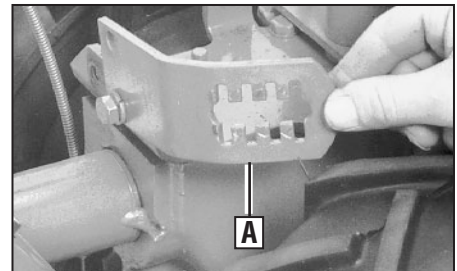
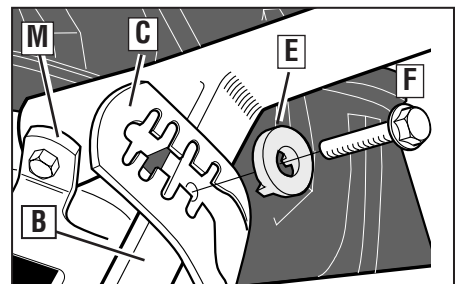
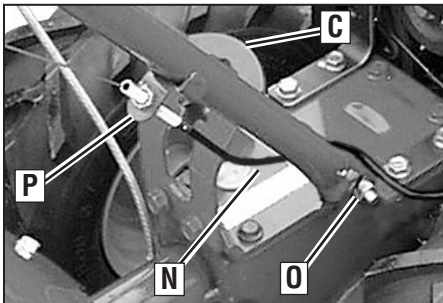

Figure 2-2: On electric start units, move height adjustment bracket (A, Figure 2-2), loosen the second screw, and swing the bracket to one side.
Figure 2-3: Forward clutch control cable not shown for clarity.
Figure 2-4: Attach handlebars.
height adjustment bracket (A, Figure 2-2), loosen the second screw, and swing the bracket to one side.
3. Gently lift handlebar (do not overstretch attached cable) and place handlebar cross-brace (B, Figure 2-3) in front of curved height adjustment bracket (C).
4. With the forward clutch cable (N, Figure 2-4) on the inside of handlebar, position the handlebar ends on the outside of the two mounting tabs (M, Figure 2-3) on the transmission top cover.
NOTE: The curved handlebar height adjustment bracket appears as shown in C, Figure 2-3 for non-electric start units. For electric start units, the bracket is loosened and moved to one side.
5. Loosely attach the handlebars to the mounting tabs with two 3/8-16 x 1" screws (heads of screws go to inside of tabs), 3/8" flat washers and 3/8"-16 lock nuts (O, Figure 2-4).
6. On electric start units, reattach the height adjustment bracket (A, Figure 2-2). Tighten both screws securely. Make sure the handlebar cross-brace (B, Figure 2-3) is under the bracket.
7. Move the handlebars up or down to align the threaded hole in the cross-brace with one of the four slots in the curved height adjustment bracket. Place the keyed washer (E, Figure 2-3) on the flange head height adjustment screw (F) with the raised keys (edges) of the washer facing down.
8. Thread the height adjustment screw (F, Figure 2-3) into the hole in the handlebar cross-brace, making sure that the raised keys on the washer fit into the slot on the height adjustment bracket. Tighten the height adjustment screw securely. Next, securely tighten the two screws and nuts in the ends of the handlebar (M, Figure 2-3).